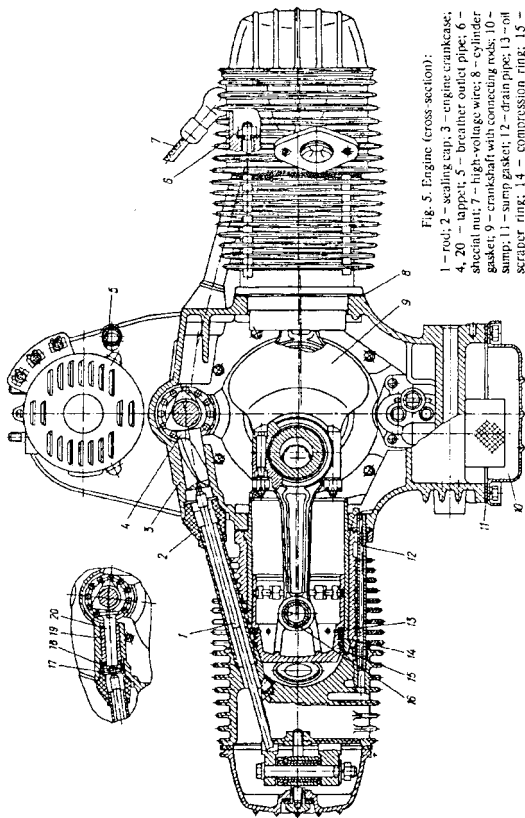
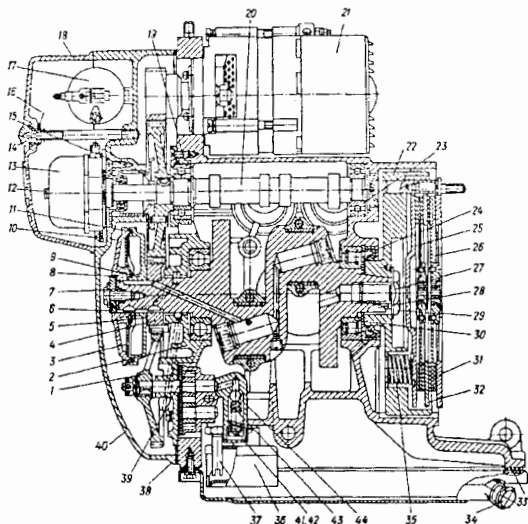
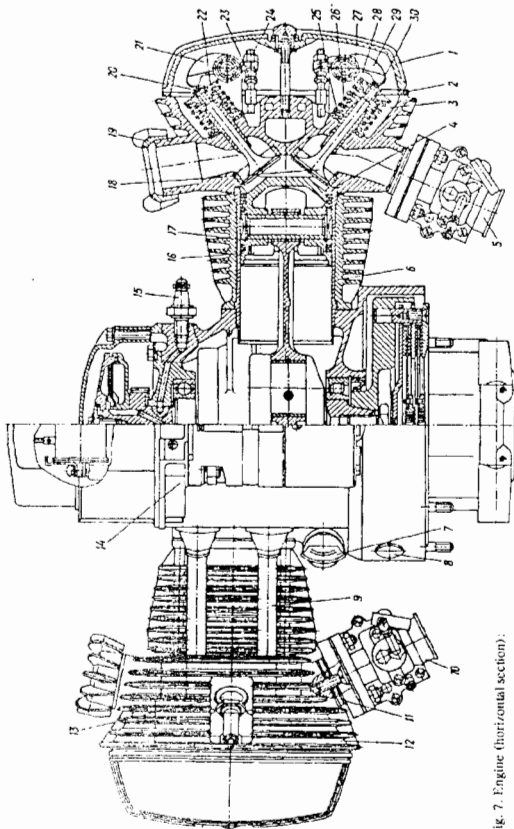
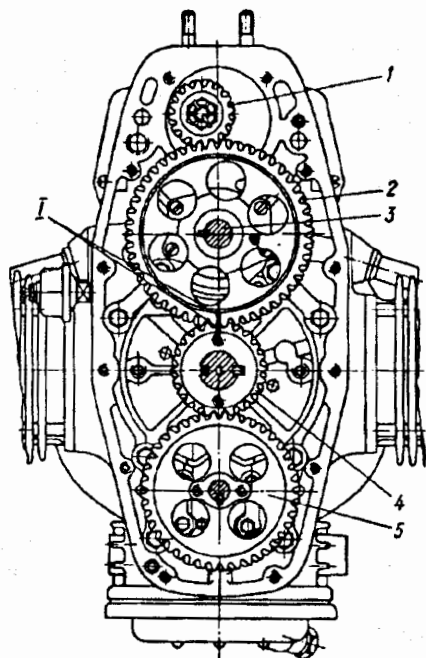

Fig. 5. Engine (cross-section):
Fig. 6. Engine (longitudinal section):
Fig. 7. Engine (horizontal section):
Fig. 8. Engine gears:
As regards its design features and technical characteristics, the engine (Figs 5, 6, 7) is classified as a road-type hopped-up motorcycle engine.
The crankshaft is installed in the engine crankcase on two bearing 30 (Fig. 6) and 39. Fitted on the crankshaft front end is driving timing gear 4 and centrifuge, flywheel 22 is mounted on the tapered portion of the rear end.
Piston, piston rings and piston pins. Engine piston 15 (Fig. 5) consists of a crown, skirt and bosses. The piston has four grooves in which piston rings are fitted. Two upper rings 14 (compression) provide the required air-tightness in the cylinder and prevent the gases from breaking through from the combustion chamber into the crankcase.
Piston 16 (Fig. 7) is linked with the connecting rod by means of a floating pin whose axial displacement is limited by two spring lock rings 17 inserted into the annular recesses of piston bosses.
Crankcase. Crankcase 3 (Fig. 5) which is cast from aluminium alloy is the main base member of the engine.
During engine operation, some portion of the air-fuel mixture and exhaust gases force their way into the crankcase through piston ring clearances. Besides, as the pistons move to the lower dead centre, the gases in the crankcase space are compressed and under their pressure the oil may leak out from the crankcase-to-cover joints and through the glands. To prevent this, forced ventilation of the crankcase is used. To open the crankcase inner space to atmosphere as the pistons move down and seal it off from atmosphere as the pistons move upward, breather 15 (Fig. 6) is provided, which is located in the central hole of cover 40 of the timing gear box.
Cylinders. the engine has identical interchangeable bimetallic cylinders 6 (Fig. 7). The cylinder is essentially an aluminium jacket with a cast iron sleeve. The lower portion of the cylinder is provided with a flange having holes passing through all the fins, for anchor studs fastening the cylinders and their heads to the crankcase. The cylinder upper portion has an annular collar entering the recess in the head.
The valve timing gear controls the opening and closing of the outlet and inlet valves at the appropriate instants corresponding to a definite crankshaft rotation angle. The valve timing gear consists of camshaft 3 (Fig. 8), tappets 4 (Fig. 5), rods 1, rockers 21 (Fig. 7) and 29, adjusting bolts 23, lock nuts 24, outlet (22) and inlet (18) valves with caps 20, springs 26, 27, bearing disks 25, 28 and blocks 30. Mounted at the front part of the camshaft is driven gear 2 (Fig. 8) with which driving timing gear 4 and generator drive gear 1 move into mesh. The camshaft is installed in the engine crankcase on two ball bearings 19 (Fig. 6) and 23. The correct valve timing is ensured by matching the marks on timing gears 2 (Fig. 8) and 4 during assembly.
The engine may be fitted with tappets of another design (see ref. Nos 17, 18, 19 and 20, (Fig. 5) whose working end is faced with a special alloy.
If the clearance is set improperly, slacken lock nut 24 (Fig. 7) and, rotating adjusting bolt 23 in one direction or the other, set the required clearance. Following that, tighten up the lock nut. The clearance is to be adjusted on a cold engine and must be equal to 0.07 mm. If there is no clearance or the clearance is too small, the valve will not fit closely to its seat at the instant of closure; if the clearance is too large, the beginning of valve opening will lag behind and filling the cylinder with air-fuel mixture will be impaired. To adjust the clearance in the other cylinder, turn the crankshaft by one revolution (by 360°), following which check and adjust the valves as directed above.